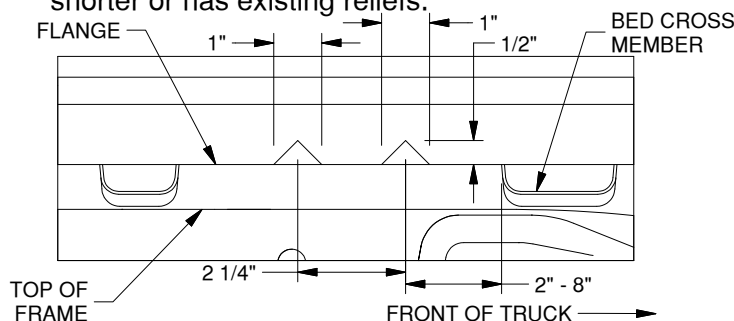

Figure A6: Looking at passenger side wheel well
11. **Modify bed flange.** Cut two small notches in the bed flange, just above the frame in the passenger side wheel well, as shown in Figure A6. These notches are required for installing the hitch's rear cross member. Some trucks may not need as much cut if the flange is shorter or has existing reliefs.